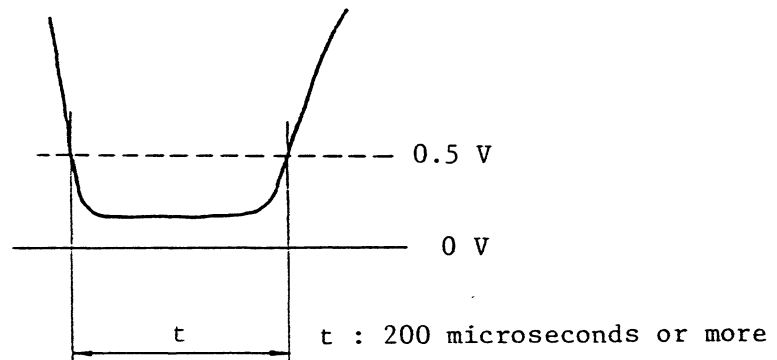

Fig. 430 Hole detection waveform at TP13
- (r) When the BOT hole passes through the front of the hole sensor, observe the hole detection waveform at TP13, and check if the time of the portion where the low level at the hole detection time is 0.5 V or less is 200 microseconds or more (Fig. 430).